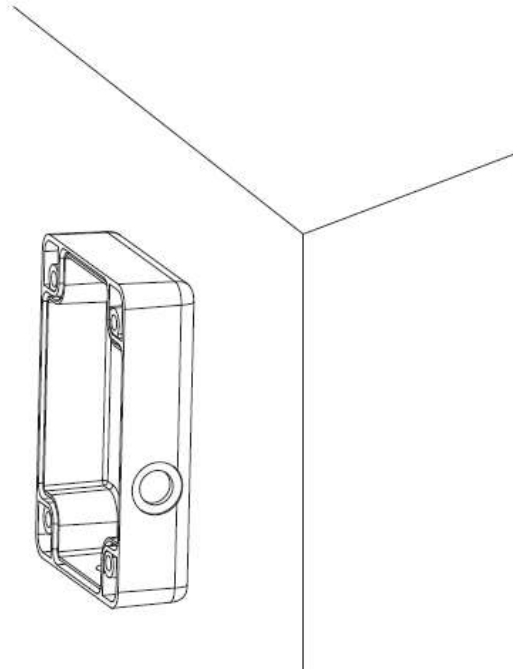

Figure 4-2
1). Please draw holes position in the wall according to the holes of the bottom of wall mount base. Then you can dig holes and insert the expansion bolts. Use four hex bolts and flat washer to fix the wall mount base in the expansion bolts. See Figure 4-2.